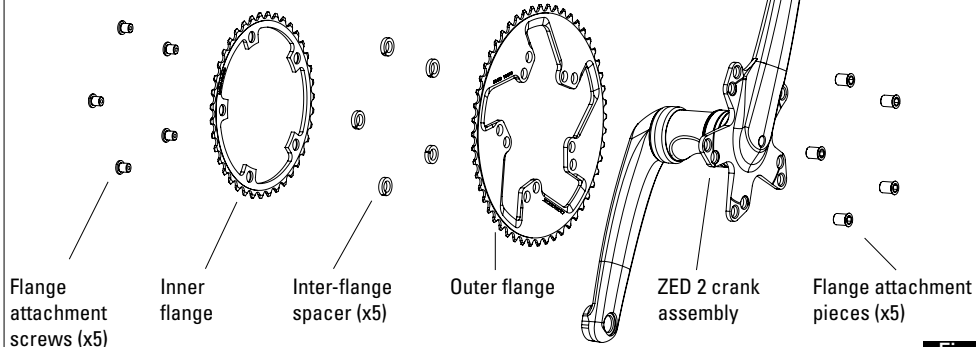

Fig 2
1. either via the left crank when the crank assembly is not assembled on the frame, as shown in figure 2.